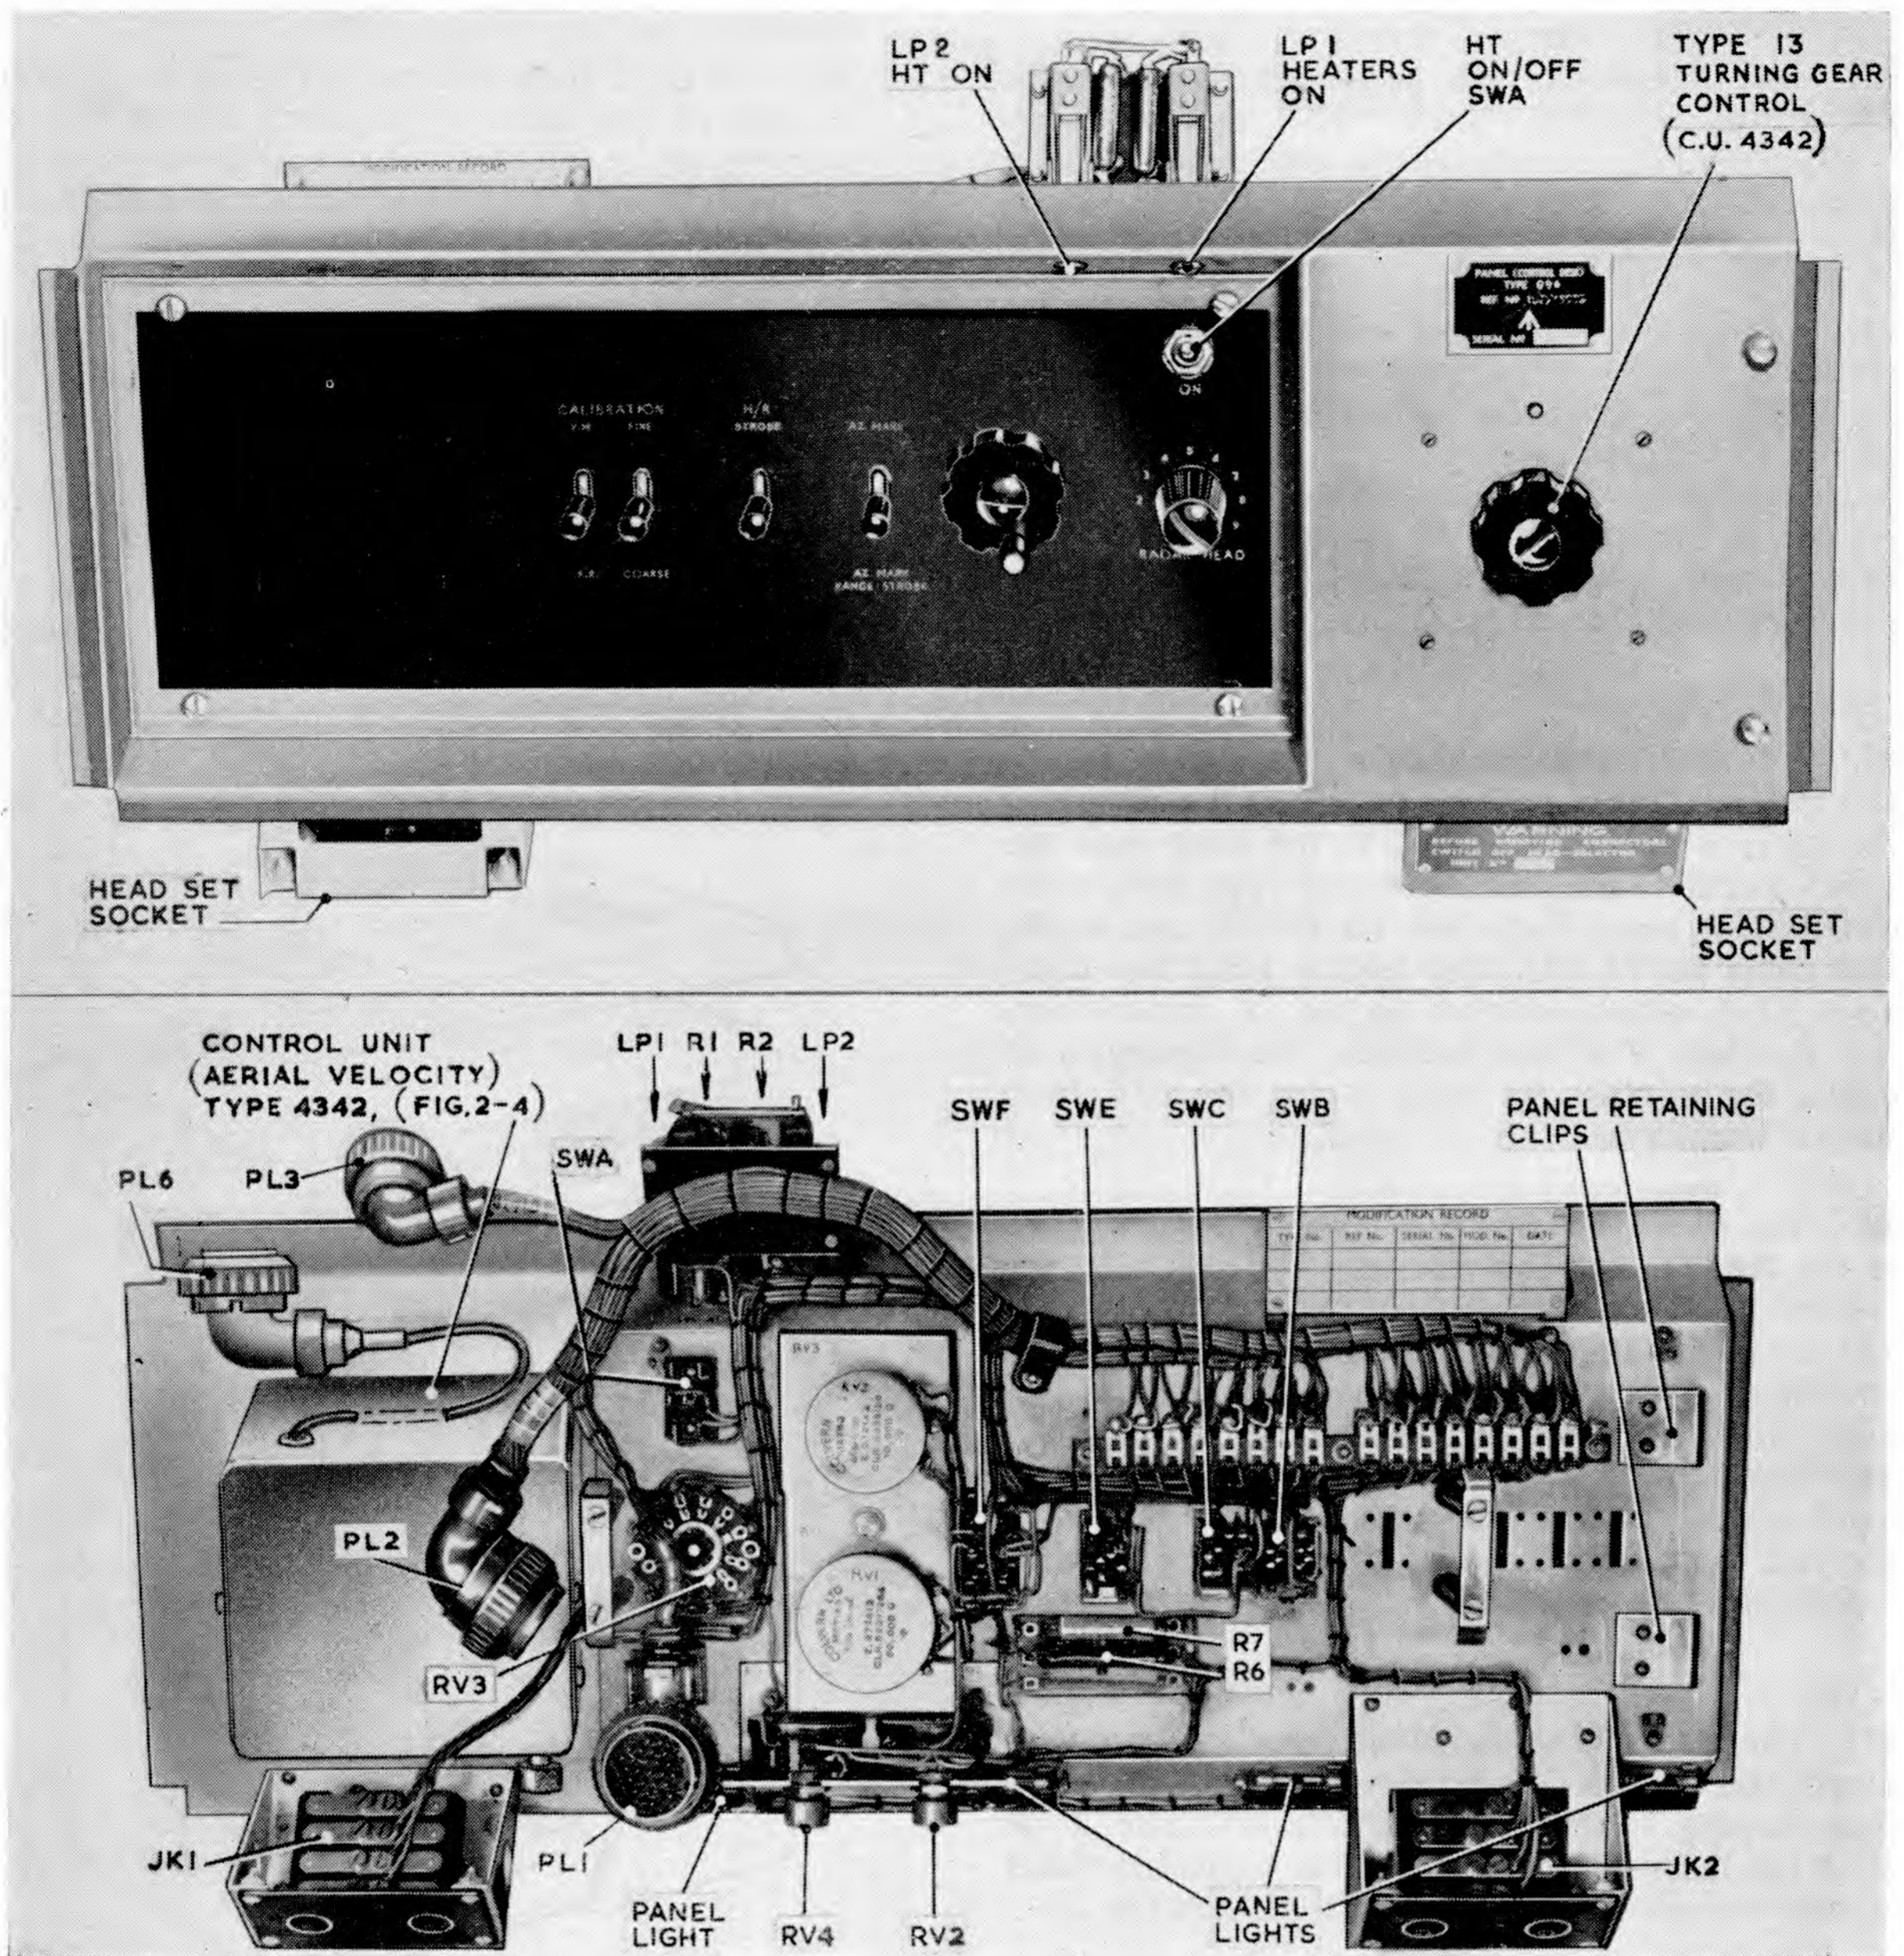

Fig. 7. Panel (control desk) Type 896—front and rear views
9. All the controls that have been used on any desk are described under this heading. Reference should be made to this description for an explanation of the controls listed in fig. 1a and 1b. These figures show the complete range of desks, each with their various combinations of facilities. Complete circuits of the majority of desks are shown in figs. 10 to 39. Where there is only a minor difference in circuitry, two or more desks are shown in one figure. The appearance of only a small selection of desks is given in this chapter (fig. 7, 8 and 9). The variations on these basic types may easily be visualized.